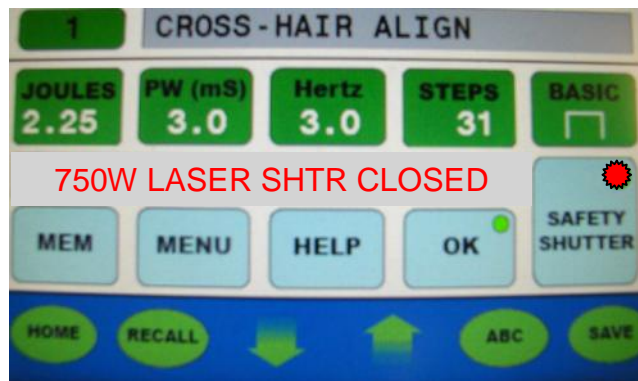

Figure 7
16. Press EXIT twice to return to the Main Screen. **(Figure 7)**